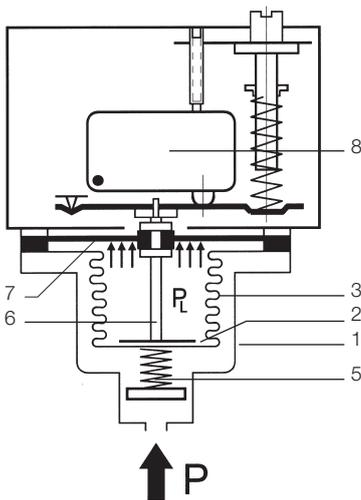

Fig. 1
- By a self monitoring pressure sensor which is designed so that a breakage in the mechanical part of the measuring element leads to cut-off to the safe side (see Fig. 1)
Fig. 1 is a cross-sectional diagram of a pressure sensor which fulfils the "special construction" requirements. The measuring chamber is bordered by the housing (1), base (2) and measuring bellows (3). All parts are made of stainless steel and are welded together without filler metals. When the pressure rises the measuring bellows (3) moves upwards, supported by the back pressure spring (5). The setpoint spring installed in the switching device acts as a counter force. A transfer bolt (6) which transfers the pressure-dependent movements of the measuring bellows (3) to the switching device located above is placed on the inside of the base. A plastic diaphragm (7), which is not in contact with the medium and in normal operation follows the movements of the measuring bellows but itself has no influence on the position of the bellows, is clamped in the upper part of the transfer bolt. On breakage of the measuring bellows (3), the medium can escape into the interior of the bellows. The medium pressure is now on the underside of the diaphragm (PL). An additional force is generated because of the far larger effective area of the diaphragm compared with the bellows, and this pushes the transfer bolt (6) upwards. This results in cut-off to the safe side. The cut-off condition thus achieved is normally interlocked electrically or mechanically, so that the system also remains cut off when the pressure drops again. The plastic diaphragm (7) is not a pressure-bearing part; it has no function in normal operation and is effective only if a leakage occurs to the measuring bellows. Safety diaphragms of the described design are permissible up to 32 bar. This should be sufficient for most applications.